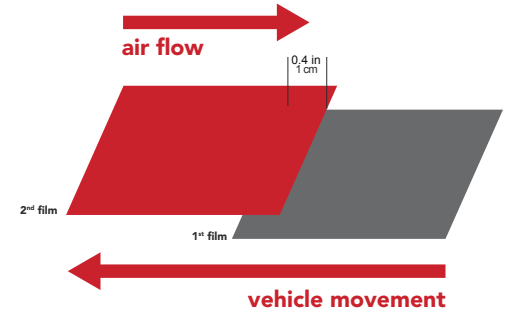

Figure 18
- Vertical overlap on moving surfaces: always apply from the rear towards the front of the vehicle, the second width will overlap the first one, etc. (FIG. 18)